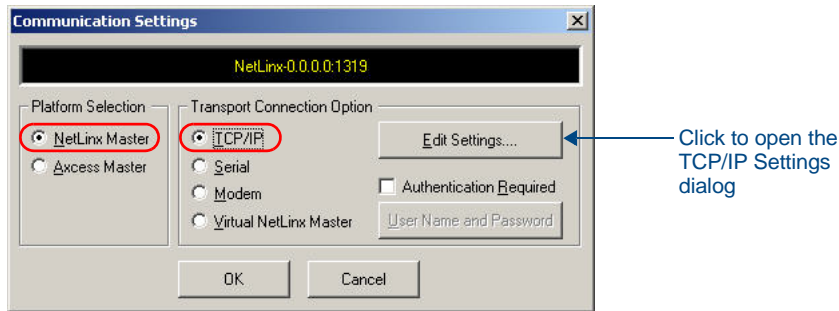

FIG. 2 NetLinX Studio - Communication Settings dialog
- Click **Communication Settings** to access the *Communication Settings* dialog (FIG. 2).